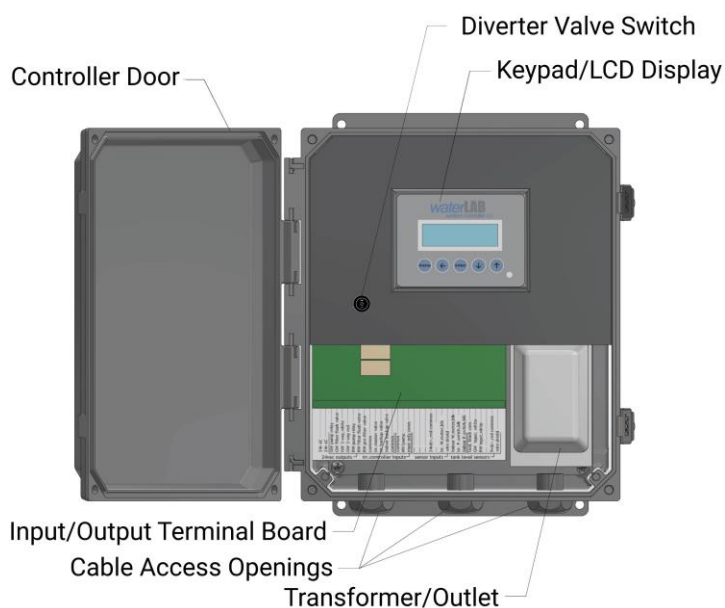

Figure 11
1. Locate the diverter valve switch down on the face plate of the Greywater Controller (figure 11).
1. Locate the divert valve switch on the face plate of the Greywater Controller (figure 11).